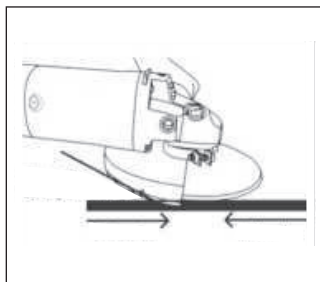

Fig 7
Effective and safe for Grinding and sanding operation. (Fig 7)
- 2. Generally speaking, please keep the grinding and cutting part of the wheel and disc in the scope of 15 to 30 degree with the surface of processing object. (Fig 7)